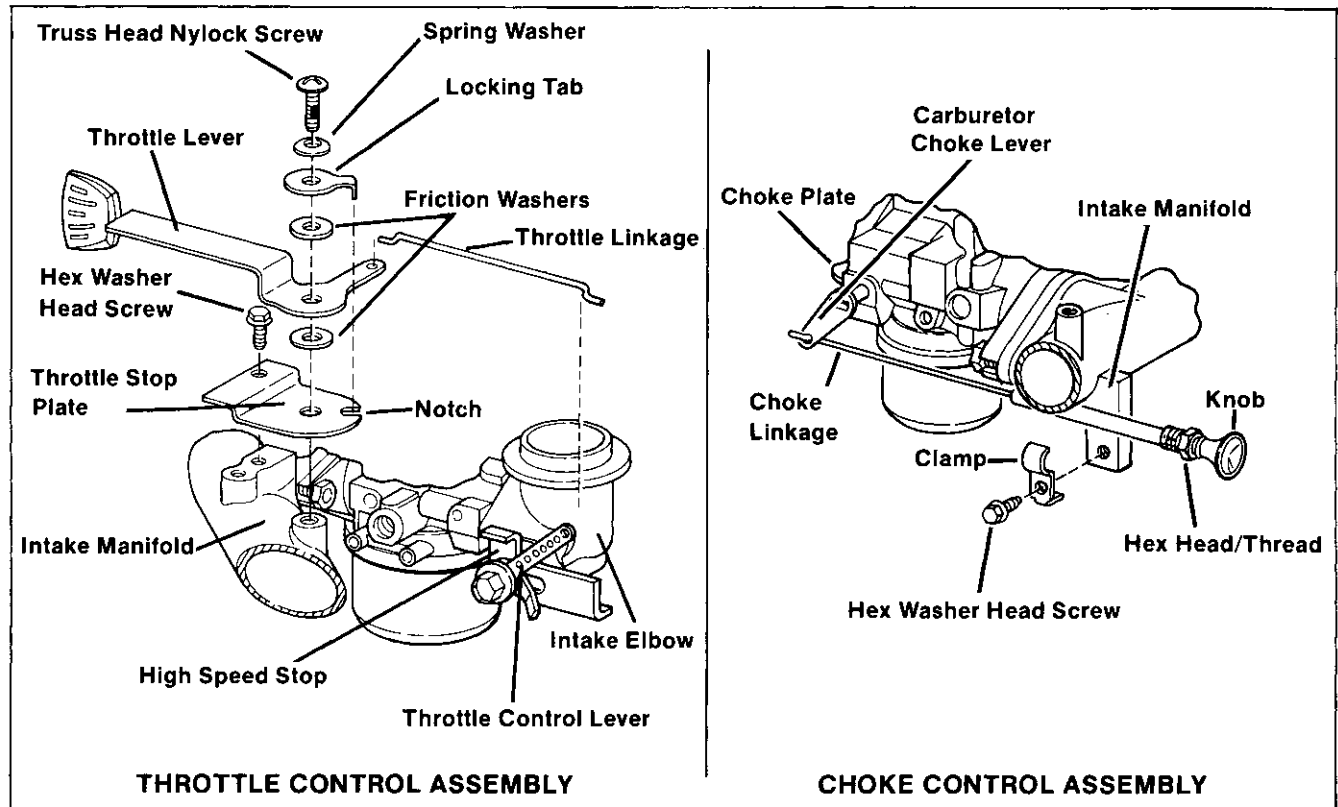

Figure 4-8. Engine Throttle And Choke Controls
3. Install friction washers and throttle lever, locking tab, spring washer, and 1/4-20x5/8" truss head nylock screw. Make sure locking tab is positioned in the notch in throttle stop plate. See Figure 4-8.
Adjustment: With choke knob against hex head/thread, move choke control assembly towards carburetor until choke plate is in the wide open position—tighten screw securely. See Figure 4-8.